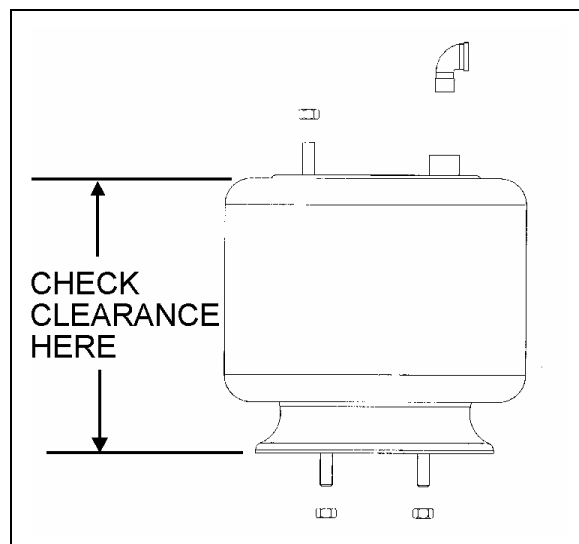

FIGURE 46: TYPICAL AIR SPRING CLEARANCE
The appropriate vehicle body height is obtained by measuring the clearance of all the air springs installed on the vehicle. The two front air springs clearance should be  $11 \pm \frac{1}{4}$ " ( $279 \pm 6$  mm). Refer to figure 46 to identify the correct area to take measurement. The rear air springs clearance should be  $11 \frac{1}{2} \pm \frac{1}{4}$ " ( $292 \pm 6$  mm).
*The measurement should be taken from underneath the upper air spring support on subframe to top of the lower air spring support on axle (refer to figure 46 for more details). If adjustment is required, begin with the drive axle.*
*The measurement should be taken from underneath the upper air spring support on subframe to top of the lower air spring support on axle (refer to figure 46 for more details).*